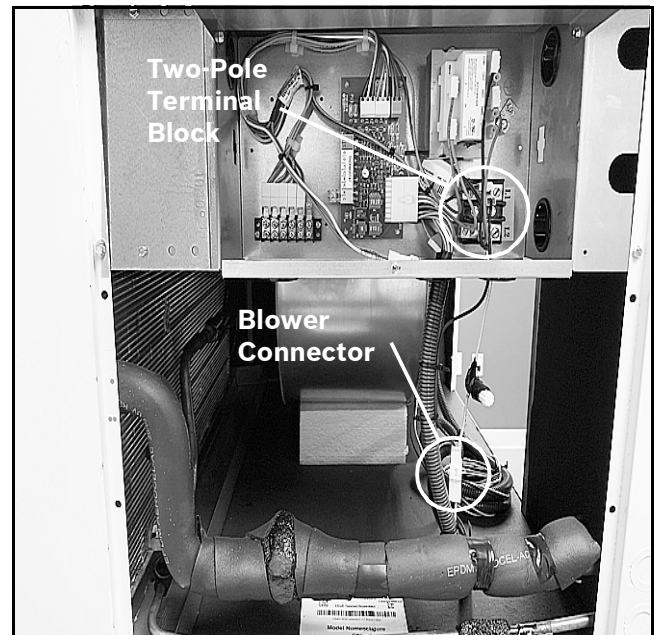

Fig. 15 Blower Connectors
5. Locate the Blower Interconnect Harness and unplug from the blower connector side and the 2-pole terminal block side. (See Fig. 15.)
11. Locate the blower connector from Step 5 (Fig. 15), connect it to the J19 connector (red and black wires) on the Electric Heat Wiring Harness.